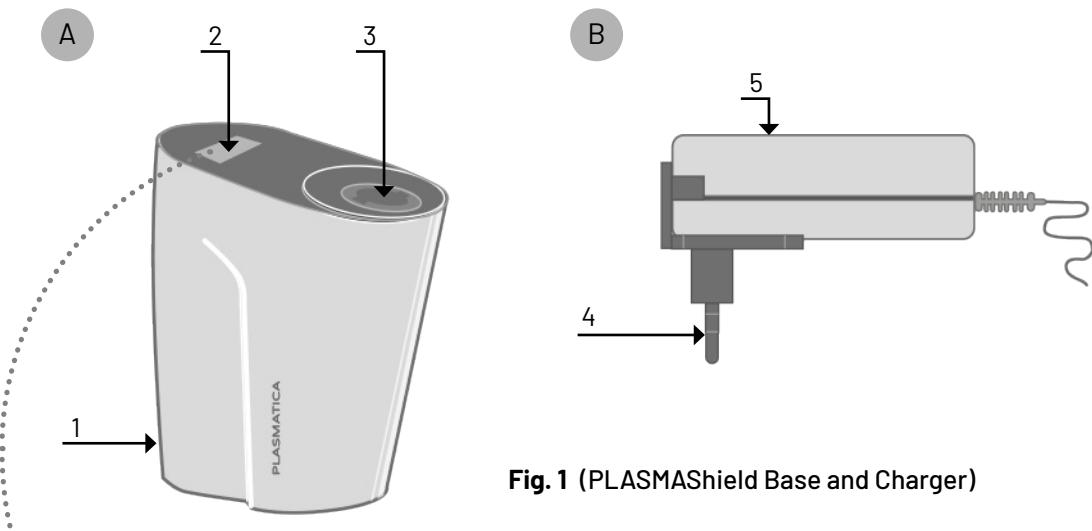

Fig. 1 (PLASMAield Base and Charger)
1. Open the Disposable sterile pouch in the sterile field. Insert the Disposable fully into the Disposable Inlet (see Fig. 1, A-3) in the Base until it clicks into position, and the Display Screen shows "READY".